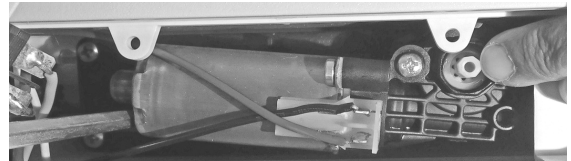

Figure 9
6. An emergency crank is supplied. In the unlikely event that the motor fails, the emergency crank may be used to close the hatch. Follow this procedure. Cut the power to the hatch. Remove the switch cover to gain access to the drive gear box. Push and hold the white motor release button indicated in the photo in Figure 9. Insert the emergency crank into the white drive socket just off the end of the motor. Carefully raise or lower the dome as needed. If the system binds, try again to fully push the release button. Once the problem with the motor is resolved, normal operation may be resumed by simply activating the switch. The white button will pop back out and the motor will be engaged.